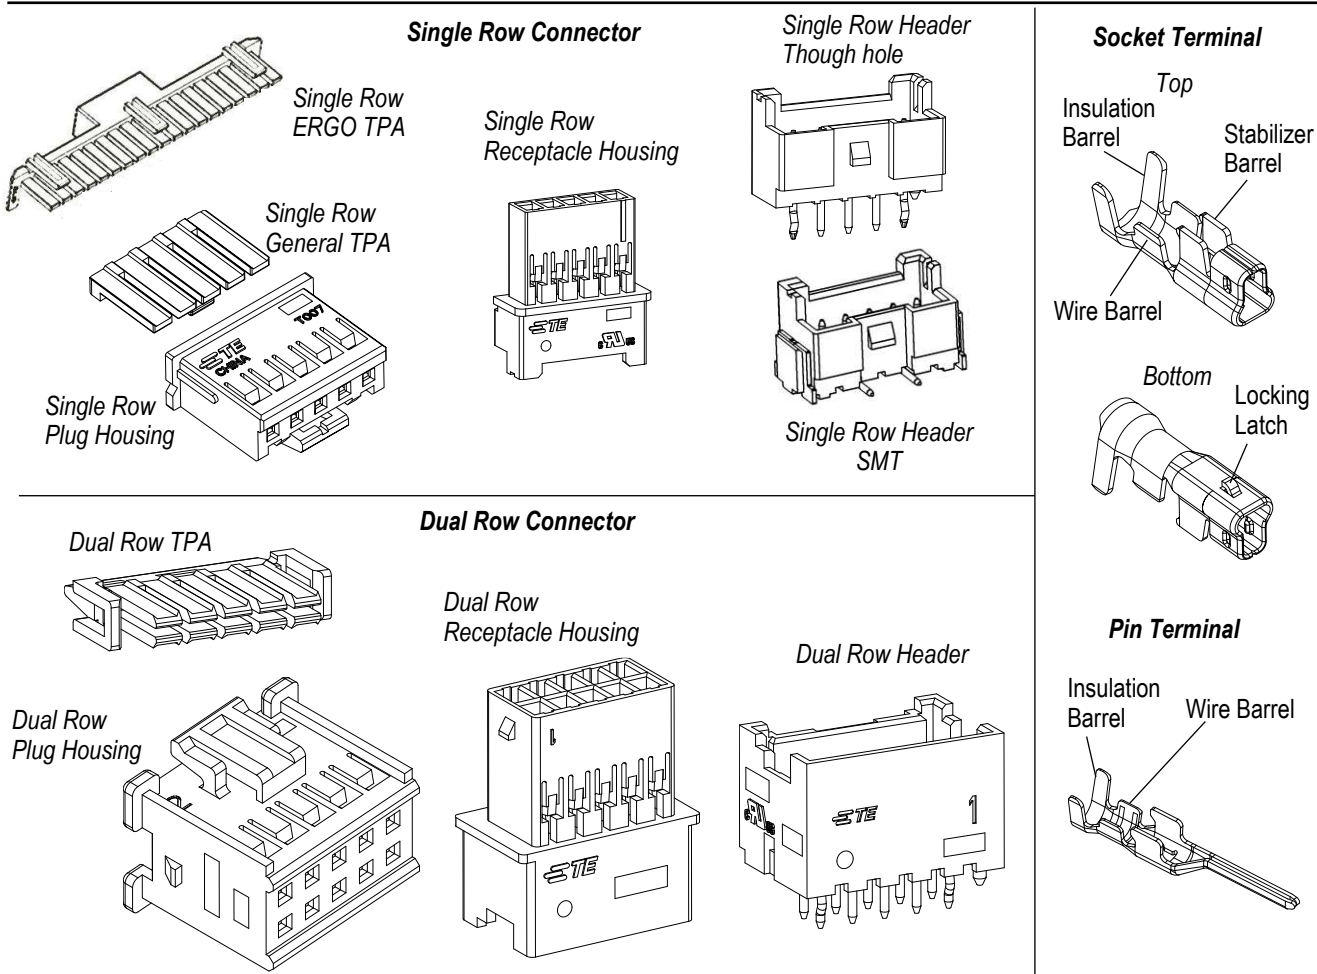

Figure 1
When corresponding with TE Connectivity (TE) Personnel, use the terminology provided in this specification to facilitate your inquiries for information. Basic terms and features of this product are provided in Figure 1.
- Updated Figure 1 to add SMT header type in page 1.